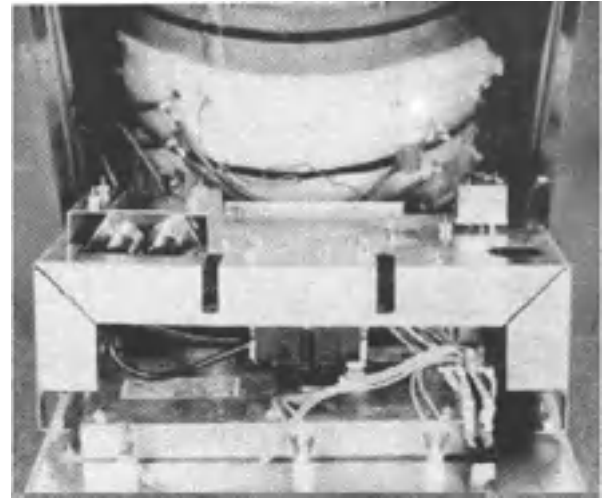

FIG. 7
5. Remove the four (4) screws securing relay panel to side panels and save for reuse. Lower panel slowly until secure (See Figure 7).